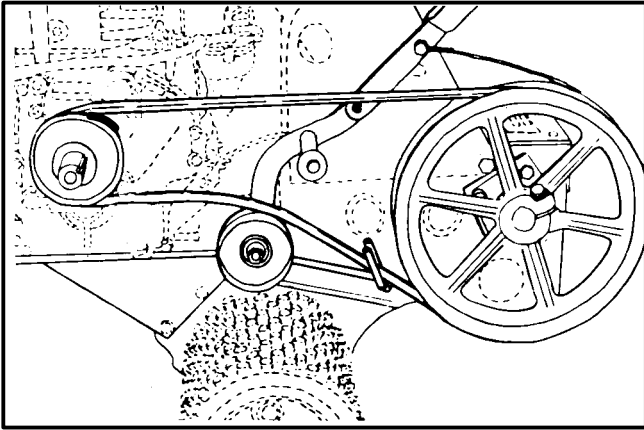

FIGURE 10
5. Install new belt in reverse procedure. Route the belt as shown in Figure 10.